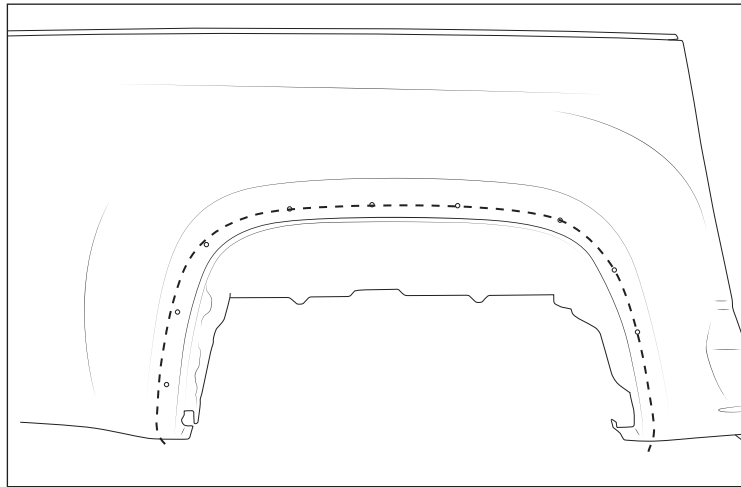

Figure 17
4. While the template is aligned with the fender, mark sheet metal along solid line as directed on template. Within the advised regions, mark the area where you will drill your holes that will be used to install spacers (fig. 17).